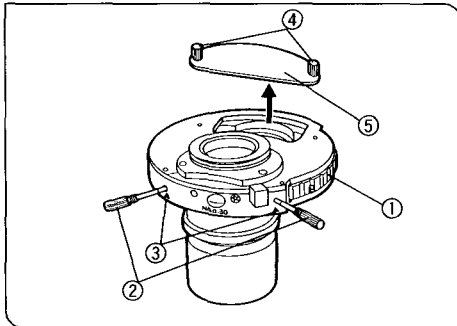
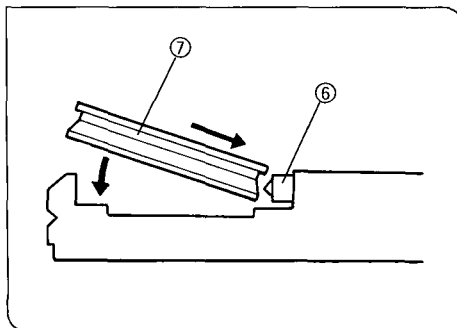

Fig. 27
Fig. 28
(Figs. 27, 28)
1. Rotate the turret ① to the Ph1/PhC index position. (Fig. 27)
2. Put the turret insert centering wrenches ② into the designated insert centering holes indicated by the ▲ symbols ③. Turn the wrenches counterclockwise to loosen.
4. Loosen the two clamping screws ④ and remove the cover ⑤.
5. While depressing the spring ⑥ on the inward side of the turret aperture with the side of the phase contrast ring slit mount (IX-PH1U or IX-PHCU ⑦), insert the phase contrast ring slit mount completely until it sits firmly on the bottom of the turret aperture. (Fig. 28)